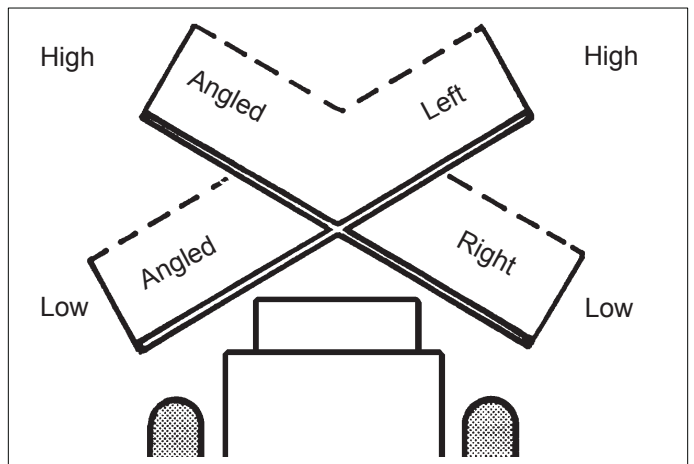

figure 3
- If the measurements are not equal, refer to figures 3 and 4 for adjustments.